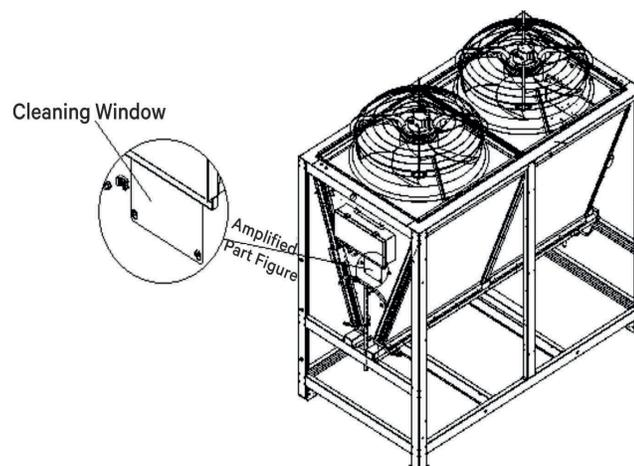

Figure 5-1 Cleaning Window
1. Clean the fins of the heat exchanger regularly. There is a cleaning window under each electrical box of the No. 2 system of the condenser, as shown in the Figure 5-1. During cleaning, ensure the power is off, electrical box be sealed well and control the blow-off angles is less than 45° between blowing off direction and condenser airflow direction.